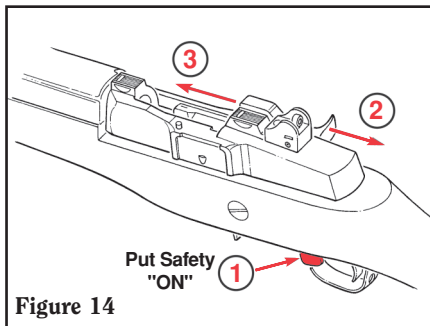

Figure 14
2. Pull the slide handle all the way to the rear and release. Make sure safety is “ON” (see Figure 14). NOTE: Hammer must be cocked and safety must be “ON” to accomplish disassembly and reassembly. Again, be sure chamber is empty!